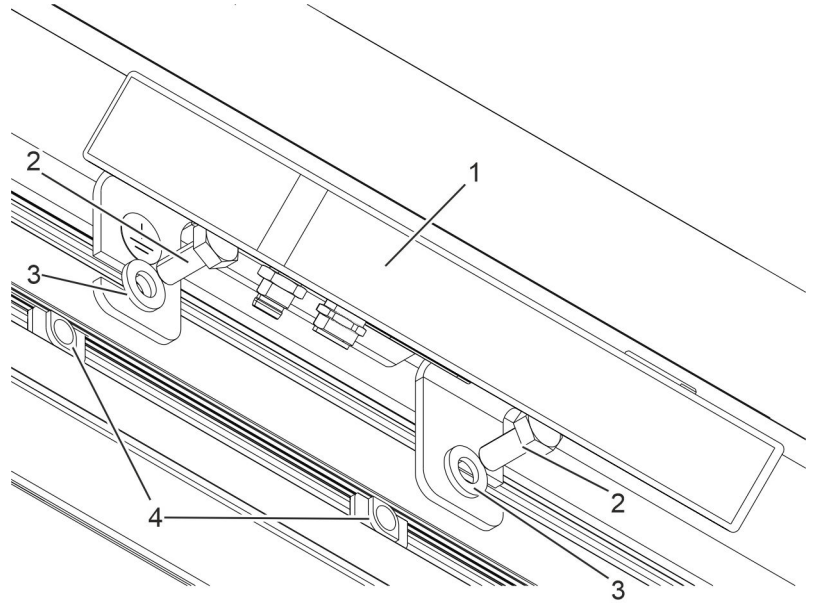

Fig. 26: Installing MonTouch
- 1.** ➤ Hook the hammer nuts (Fig. 26/4) into the lateral profile.
- 2.** ➤ Hook the MonTouch (Fig. 26/1) into the lateral profile.
- 3.** ➤ Fasten the MonTurn (Fig. 26/1) to the hammer nuts (Fig. 26/4) using two countersunk screws (Fig. 26/2) and washers (Fig. 26/3).